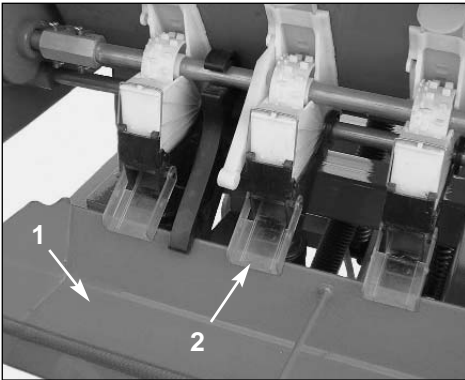

Fig 6
- 1 Remove the calibration tray from the storage brackets on the seedbox. Place the calibration tray (1) adjacent to the seeder units (Fig 6).
- 2 Position all the clear plastic seed diverters (2) to redirect the seed into the calibration tray (Fig 6).